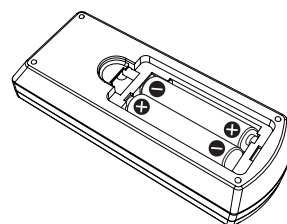

Fig. 2
- 2) **Insert batteries and close the cover (Insert the "⊖" side first.). (Fig. 2)**